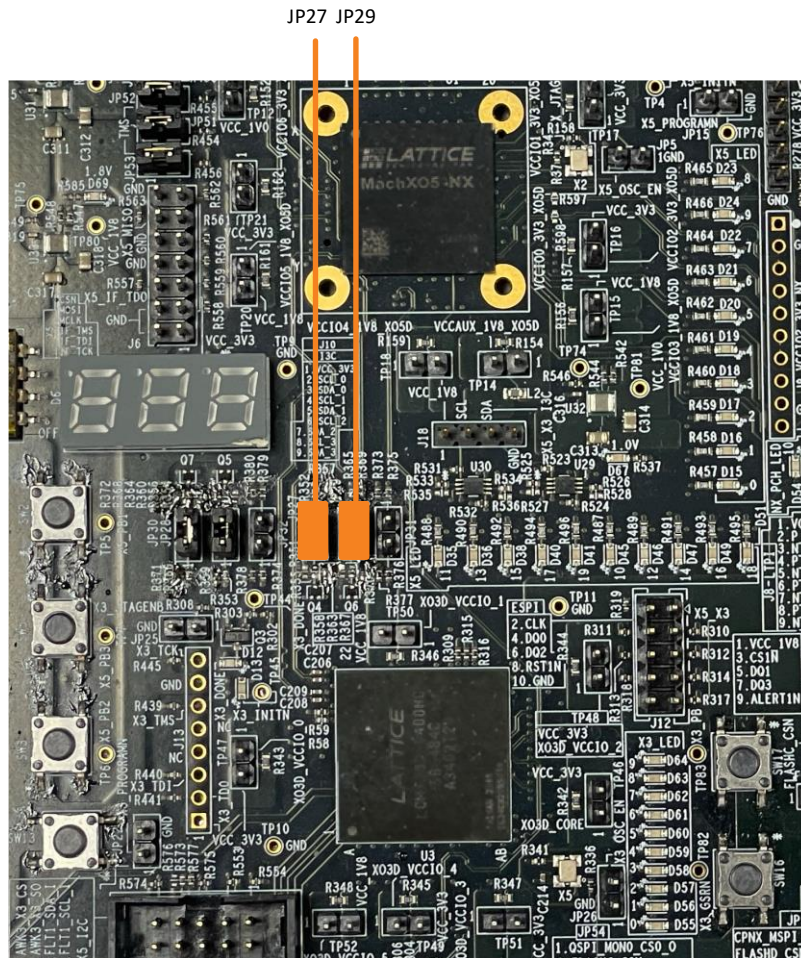

Figure 6.14. M-PESTI Demonstration Jumpers
1. Connect JP27 and JP29, as shown in Figure 6.14.